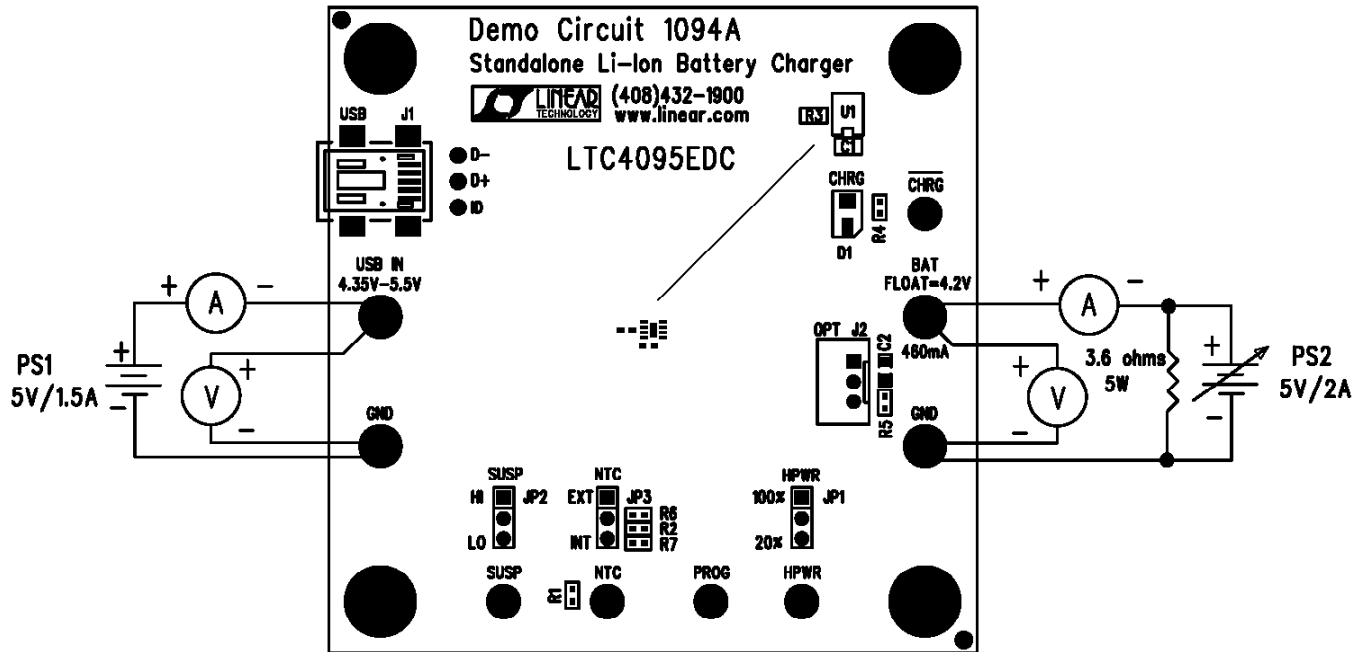

Figure 1. Proper Measurement Equipment Setup
Demonstration circuit 1094 is easy to set up to evaluate the performance of the LTC4095. The charger may be evaluated using an actual Li-Ion battery, a bi-polar supply, or a battery simulator. A battery simulator consists of an adjustable supply with a load resistor across the supply output. A 3.6Ω 5W resistor value will provide an 800mA load at 2.9V. This will allow the power supply to sink and source current similar to a battery, but allows the battery voltage to be changed quickly or remain at the same value indefinitely. Refer to Figure 1 for proper measurement equipment setup and follow the procedure below:
2. With the power supplies adjusted to 0V, connect the USB IN power supply and Battery or Battery Simulator with series ammeters, as illustrated in Figure 1. An ammeter or a 100mΩ current sense resistor may be used to measure the battery charge current.
3. Connect voltmeters, as shown in Figure 1, across the USB IN and GND terminals, and across the BAT and GND terminals. These voltmeters may also be used to measure the voltage on the PROG terminal.